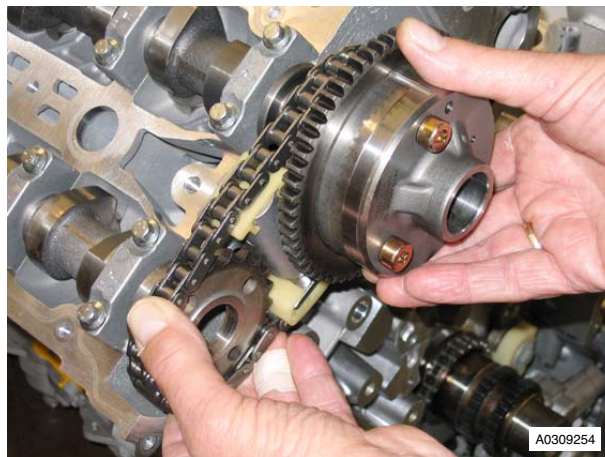

Figure 3
5. Release and remove the camshaft sprockets complete with the timing chain and tensioner from camshafts (refer to Figure 3)..